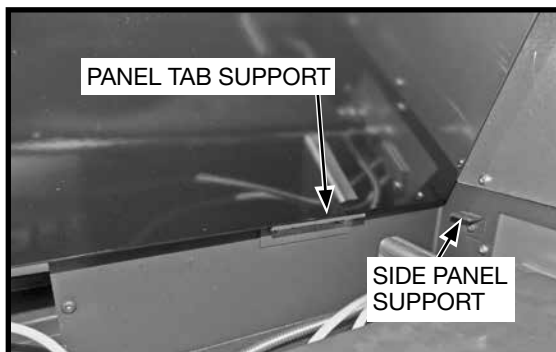
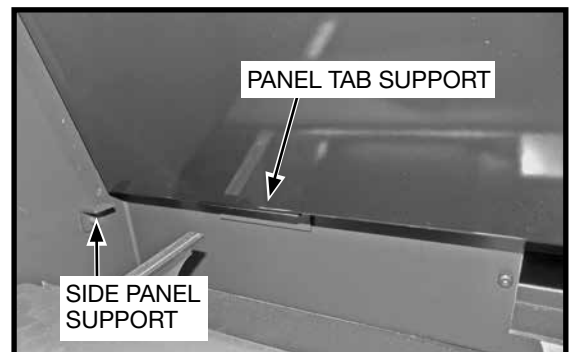

Figure 56: Rear panel - right side.
Figure 57: Rear panel - left side.
3. Insert the back panel with its' tabs pointing downward, into the firebox and position the panel tabs into the tab supports for both the right side and the left side (Figure 56 and Figure 57).